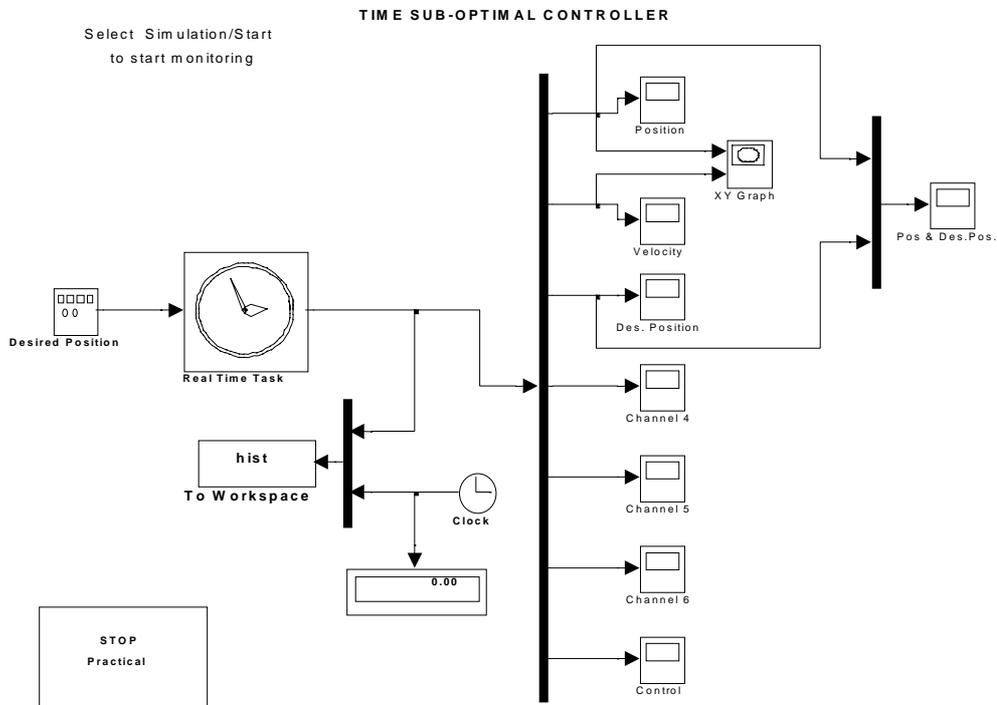

Figure 9-1: Simulink model for the *es_sto.dll* library (*es_stom.mdl* file).
The Simulink model for monitoring of the experiments with the *es_sto.dll* library is shown in Figure 9-1. **The main function of this model is not to simulate the system but to transfer data to and from the Real Time Kernel.** This is the main difference between this model and a typical application of Simulink models. The Simulink model works in this case as an graphical front-end of the external DLL library.
- ◇ *Simulink generator* - this option connects the Simulink signal generator *Desired Position* (see Figure 9-1) as the source of the reference angle,
The block *STOP Practical* block (Figure 9-1) is used to switch off control for the DC motor. Double clicking the mouse over this block executes the following command:
The value of reference position can be taken from the signal generator, from an external source or calculated by the built-in signal generator (Fig.9.1) .The reference position from the Simulink signal generator is passed to the S-function as the input argument *u*.